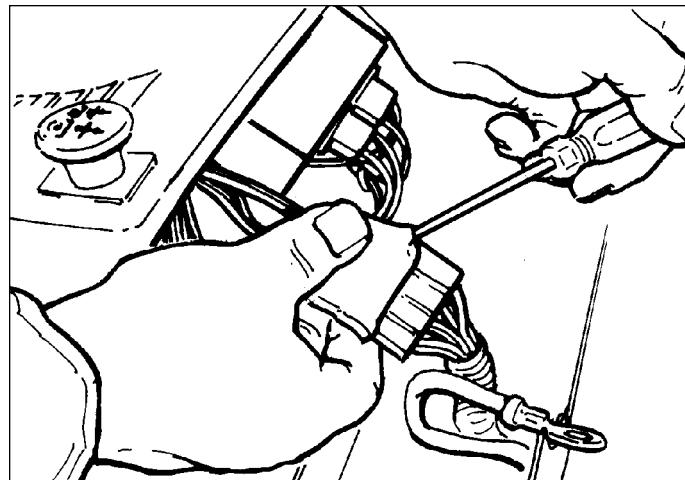

Figure D-12. Gently Pry Connector Apart With Screwdriver
12. See Figure B-11. If the connector cannot be separated by using a gentle flexing motion on each of the two halves, insert a small, flat-blade screwdriver between the halves, and use a gentle prying motion to separate the connector (Figure D-12).